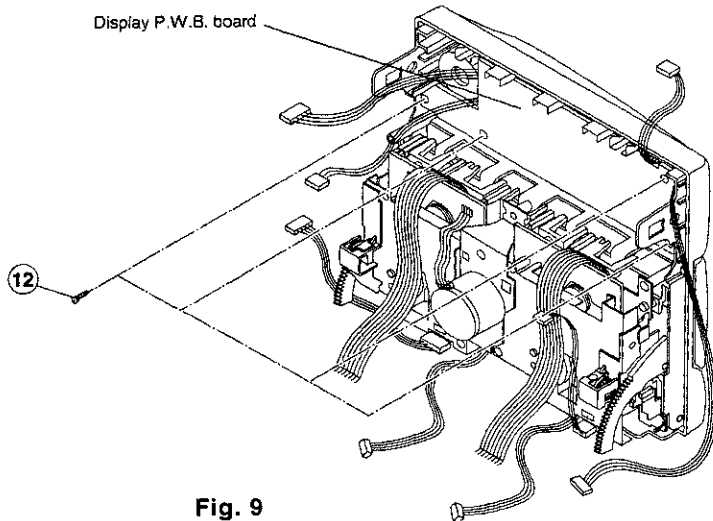

Fig. 9
(1) Remove the volume knob from the front panel.
(2) Remove the nut and washer from the Volume shaft.
(3) Remove the Volume P.W.B. board.
9. **Removal of Display P.W.B. Board (Fig. 9)**